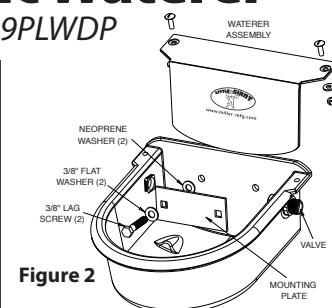

Figure 2
1. Waterer valve cover comes loosely assembled. Remove valve cover, float pin, and float/arm assembly to gain access to mounting holes. (see Figure 2).
4. Drill a hole in each of the two (2) marked locations.
5. Install the waterer as shown (see Figure 2 or 3).